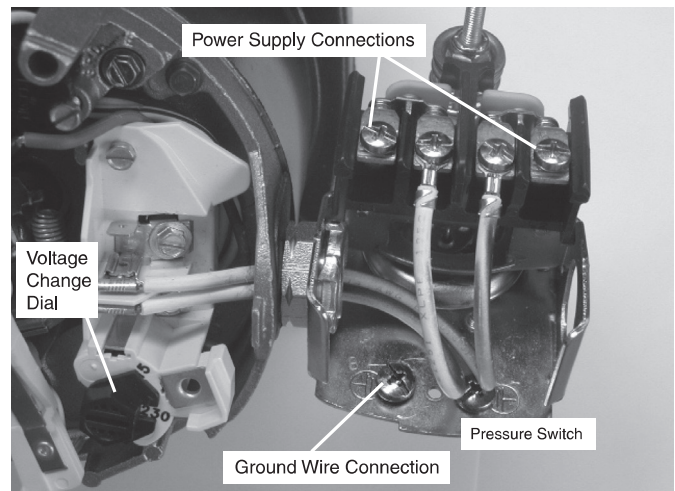

Figure 9: Voltage Adjustment Dial
1. Connect the ground wire first as shown in Figure 9.
4. Connect the power supply wires to the pressure switch as shown in Figure 9.